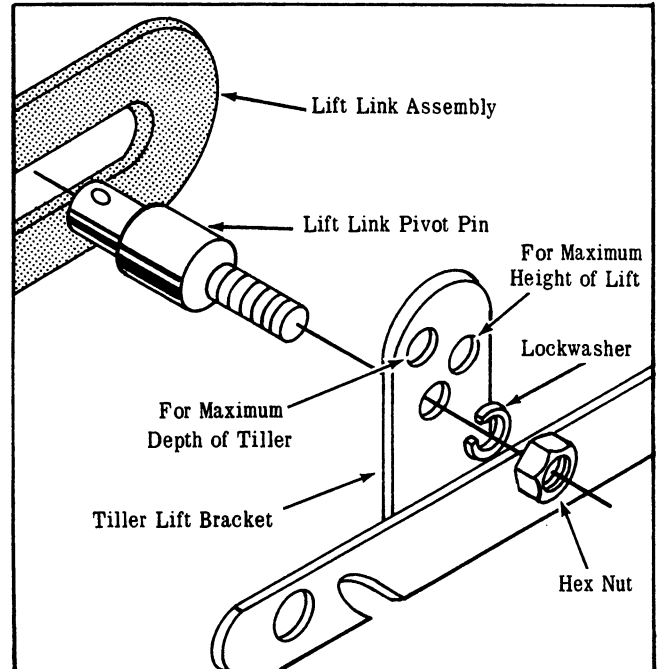

Figure 1
3. Install lift link pivot pin in center hole of tiller lift bracket, using lockwasher and nut (See Fig. 1). Maximum height of lift or maximum depth of tilling can be adjusted by installing lift link pivot pin in either of the other two holes.